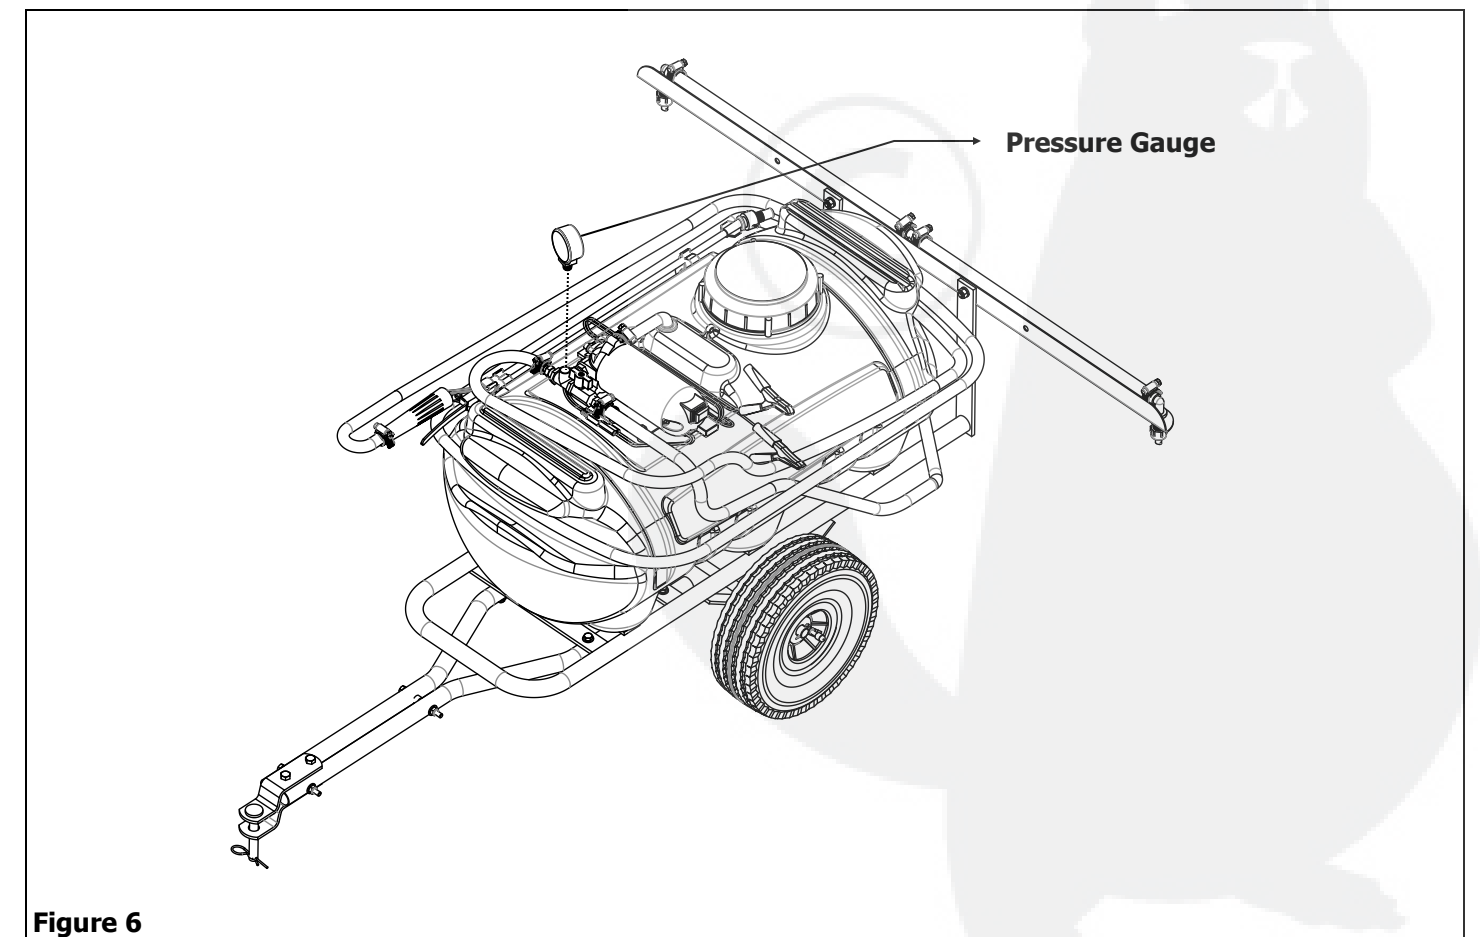

Figure 6
6. Screw Pressure Gauge into 1/4" Tee w/port, turning in a clockwise manner. See Figure 6.